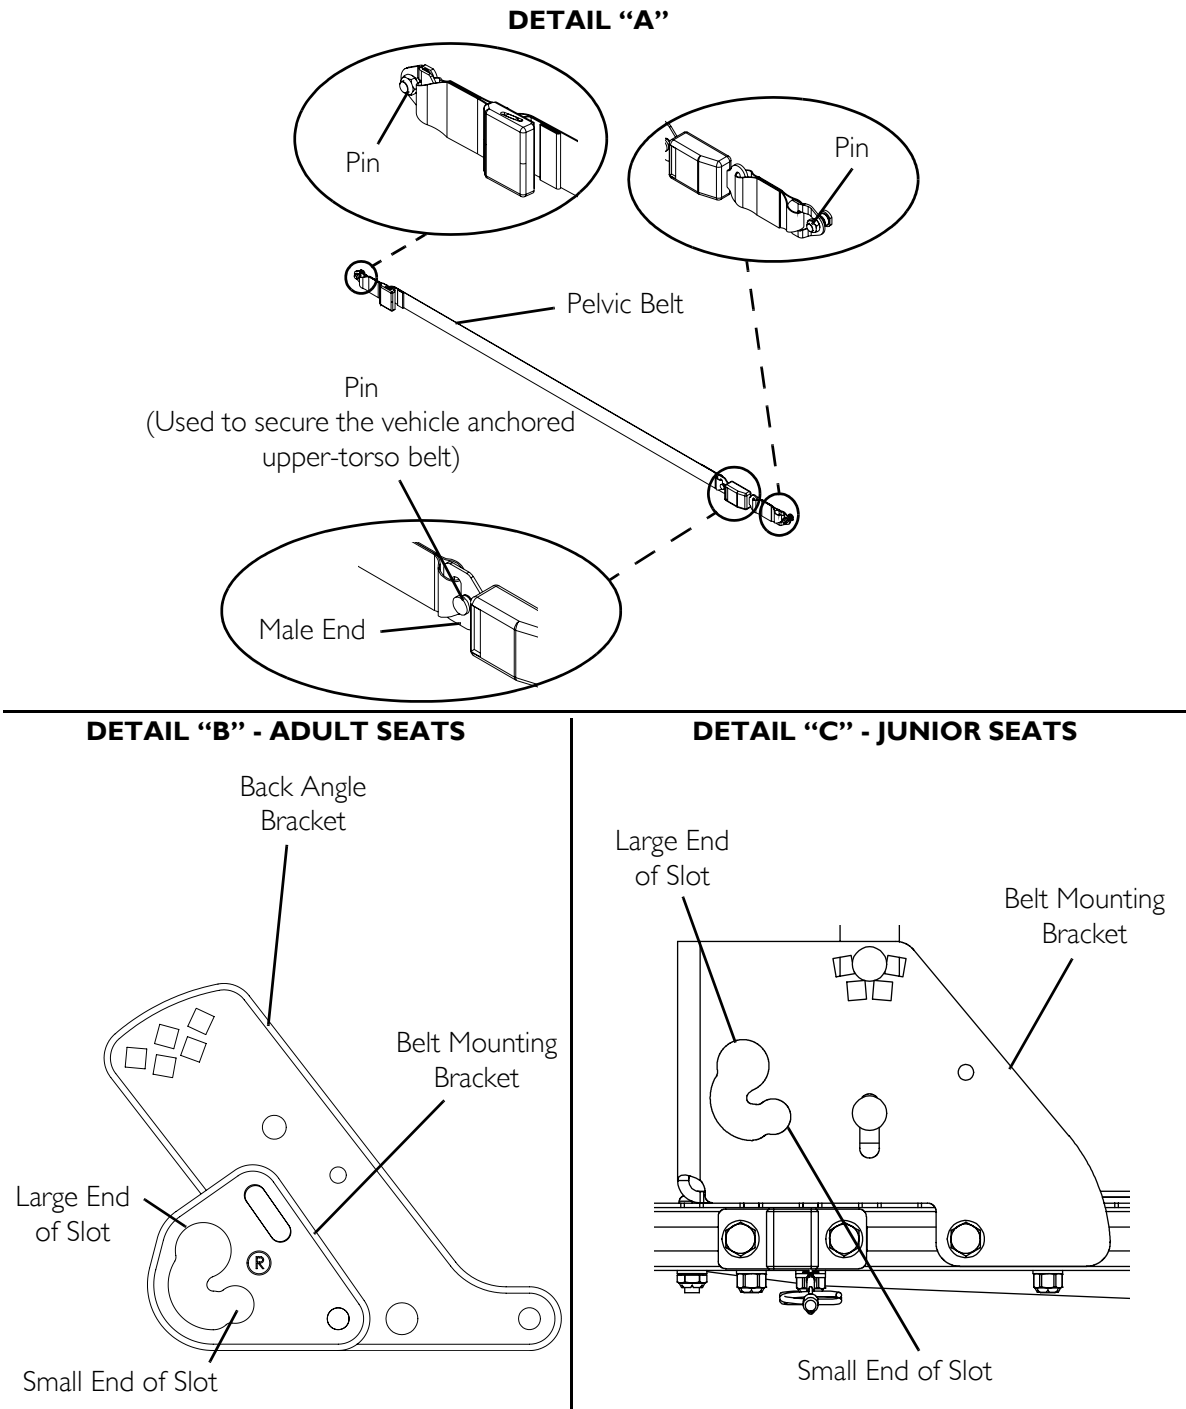

FIGURE 11.2 Wheelchair-Anchored Belts
NOTE: For this procedure, refer to FIGURE 11.2 on page 69.
1. Install the pelvic belt pin (Detail "A" of FIGURE 11.2) into the large end of the slot in the belt mounting bracket (Detail "B" or Detail "C"). Rotate downward and forward until it snaps into place into the small end of the slot.
NOTE: Note the position of the male end of the belt when installing the pelvic belt onto the belt mounting brackets. The male end of the pelvic belt (Detail "A" of FIGURE 11.2) has a pin which is used to secure the vehicle-anchored upper-torso belt.